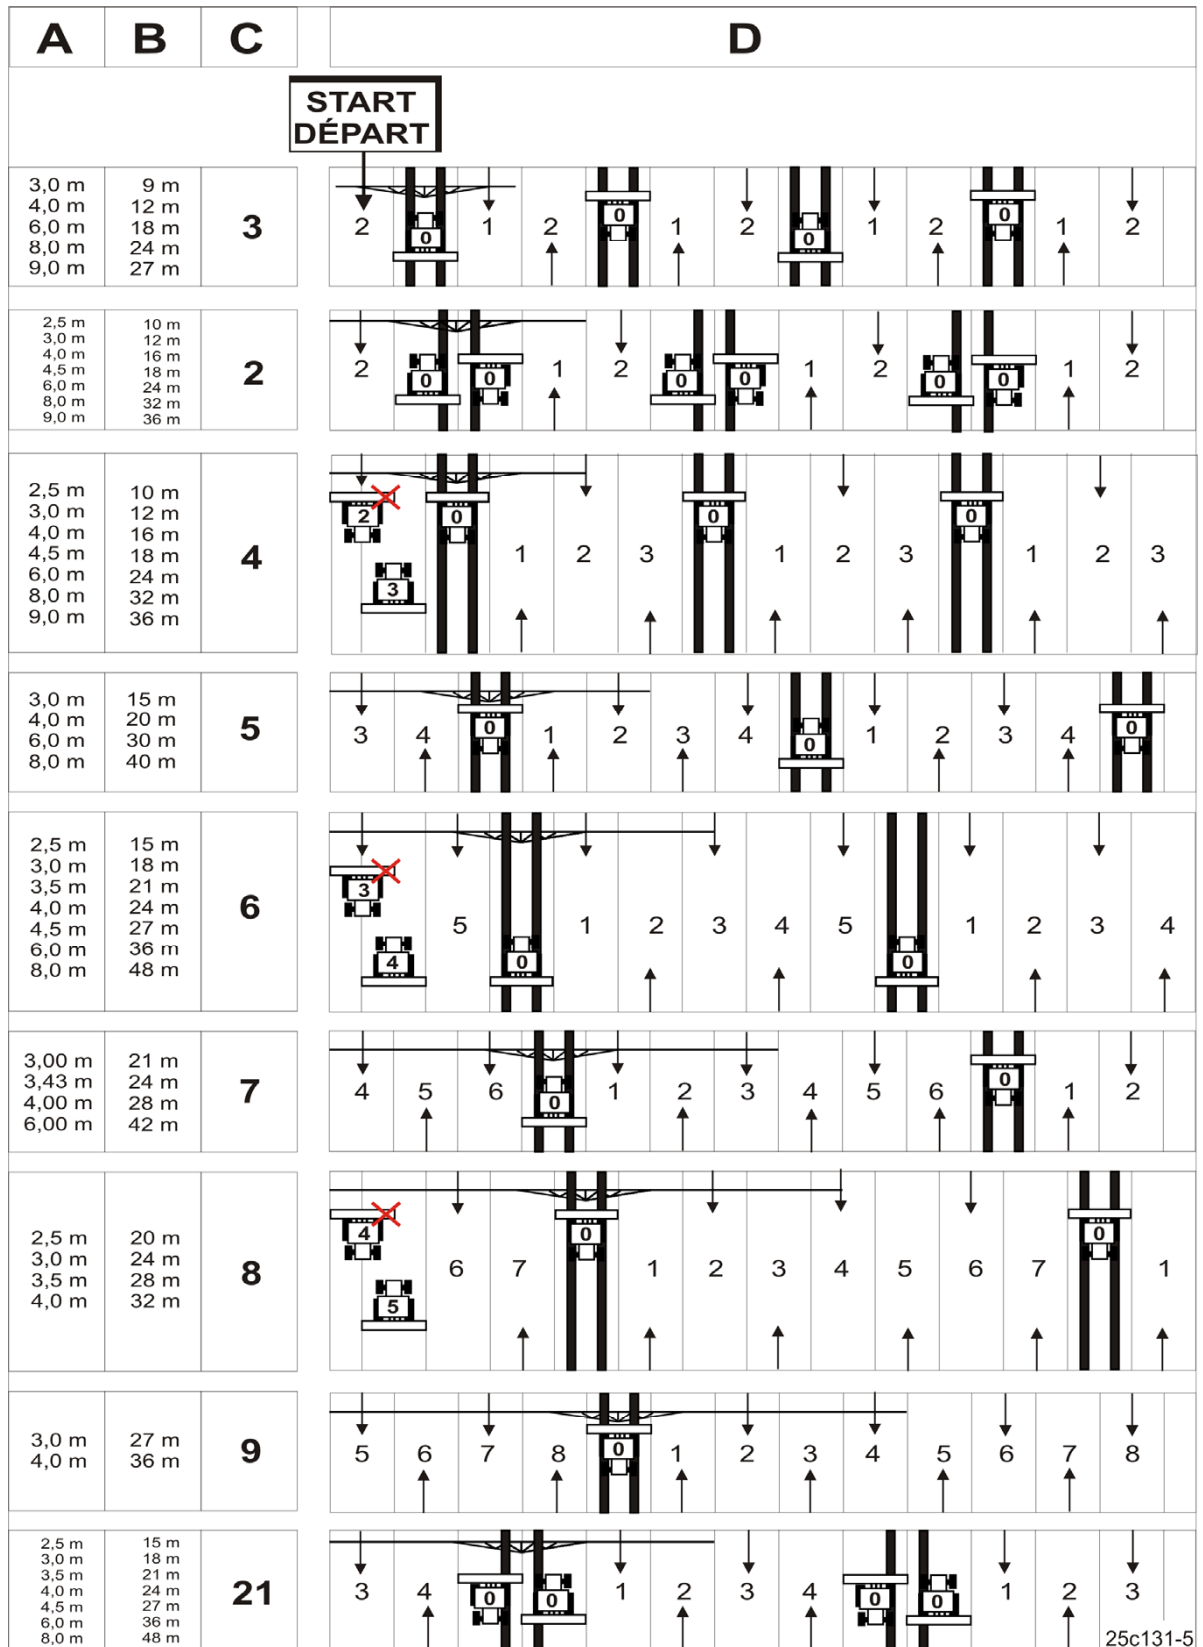

Fig. 77
The creation of tramlines is shown using various examples (see Fig. 77):
1. In the following table (Fig. 77), look for the following: